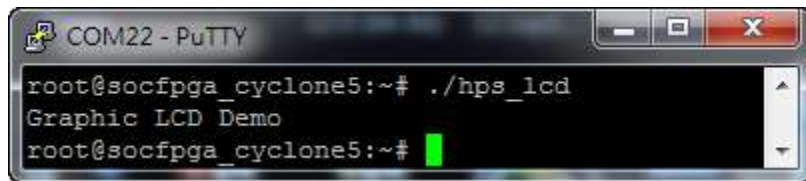

Figure 6-13 Launch LCD Demonstration
- In the UART terminal of PuTTY, type `./hps_lcd` to start the LCD demo, as shown in **Figure 6-13**.